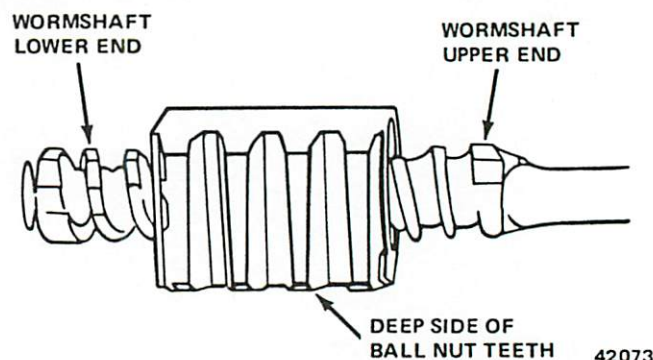

Fig. 2K-6 Positioning Wormshaft in Ball Nut
- (2) Install wormshaft in ball nut from left side. Thread shaft into nut until equal number of shaft threads are visible at each end of nut (fig. 2K-6).
**CAUTION:** The ball nut teeth are machined to a greater width and depth on one side. When assembling the wormshaft and ball nut, position the ball nut so the wider-deeper side of the teeth will face the housing side cover opening after installation (fig. 2K-6).